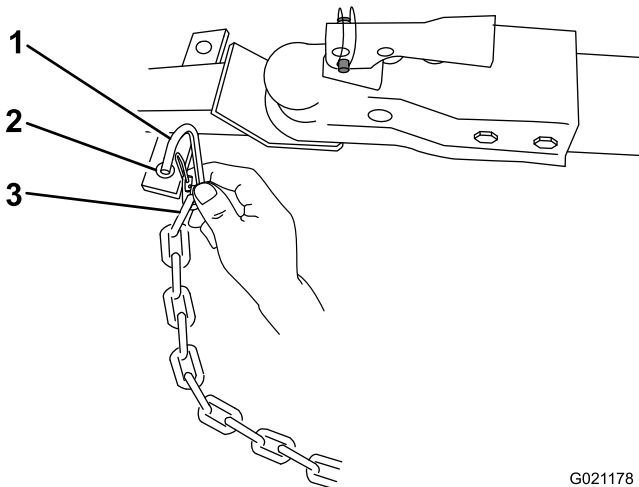

Figure 21
3. Connect each length of chain to the safety chain mounting point on the tow vehicle with the connecting links (Figure 21).